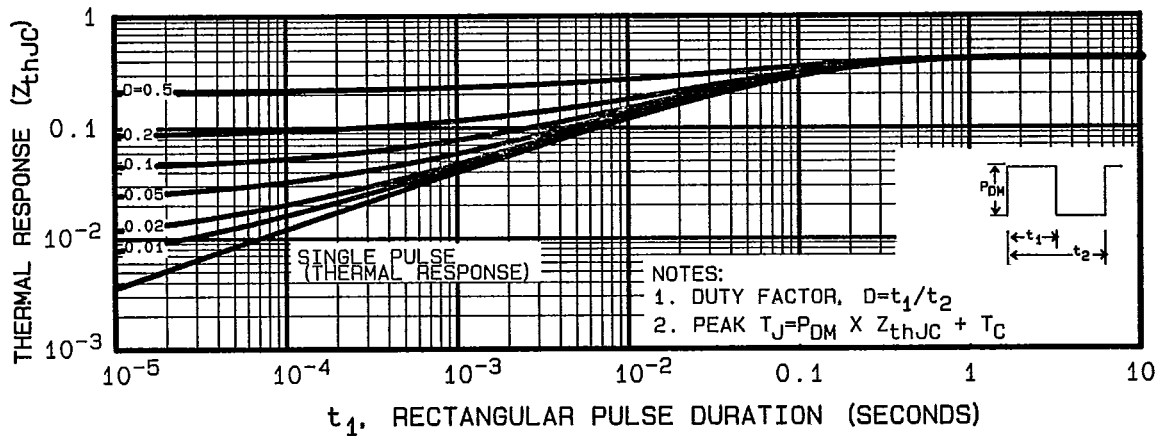

Fig. 5 — Maximum Effective Transient Thermal Impedance, Junction-to-Case Vs. Pulse Duration
① Repetitive Rating; Pulse width limited by maximum junction temperature (see figure 5) Refer to current HEXFET reliability report
② $I_{SD} \leq 25\text{A}$, $di/dt \leq 170\text{ A}/\mu\text{s}$, $V_{DD} \leq BV_{DSS}$, $T_J \leq 150^\circ\text{C}$